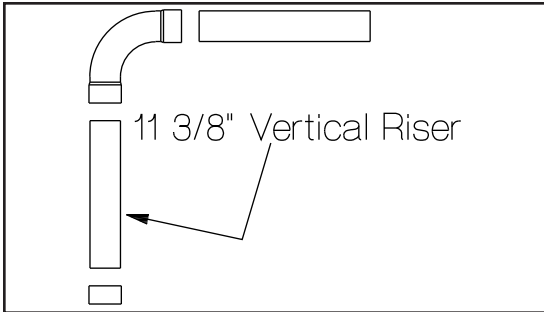

Figure 9: Copper Parts Assembly
10. For air intake, assemble copper tubing parts (see Figure 9) provided with boiler and install the assembly on boiler air intake inlet, pointing toward outside wall opening.